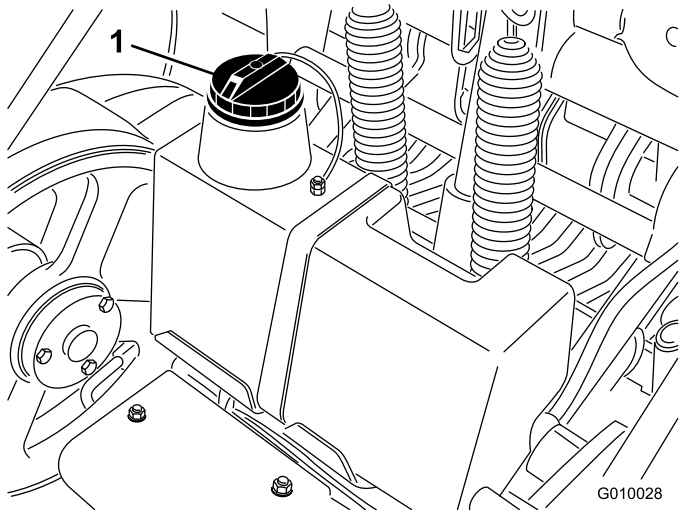

Figure 61
3. Clean the area around the filler neck and the cap of the hydraulic tank (Figure 61). Remove the cap from the filler neck.